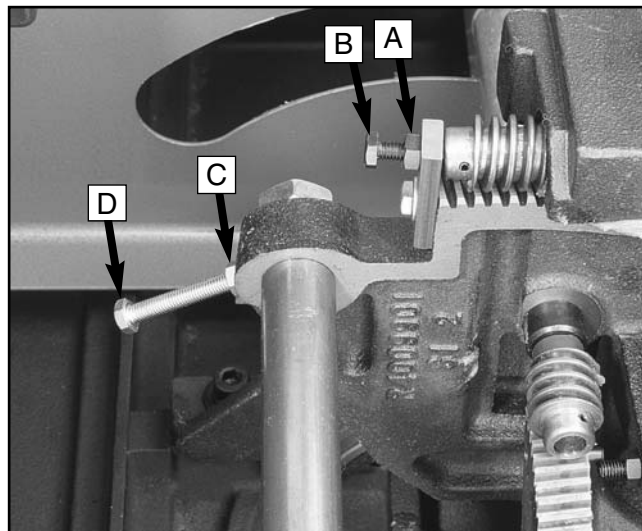

Figure 66. 90° and 45° stop bolt adjustments.
6. If a gap exists at either the top or the bottom of the square, loosen lock nut (A) and adjustment bolt (B) shown in Figure 66.
11. If variations exist, loosen the lock nut (C) and adjust the stop bolt (D) (Figure 66) until your blade and square match.